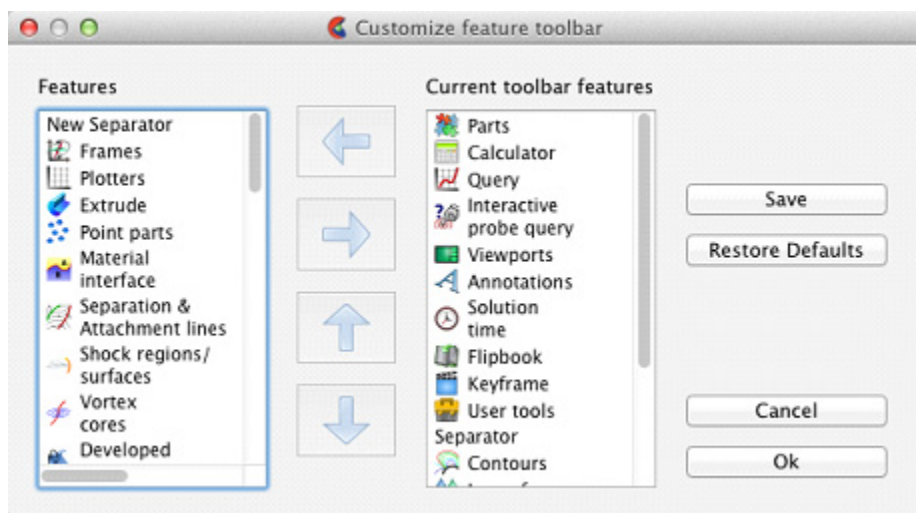

Figure 1-12
- Customize Toolbar** The Customize Feature Toolbar Dialog (see Figure 1-12), activated via right clicking on the Feature Icons context sensitive menu, allows the user to select which Feature Icons to show and in what order. It may be advantageous to customize these icons to show only those that are typically used by the user.